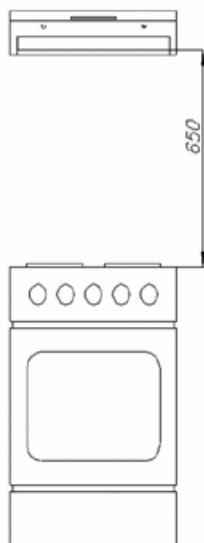

Fig. 3
3. Put the unit on the lower edge of the upper cupboard of the kitchen set. Check the minimum required height according to Fig. 3 (650 mm for electric, and 750 mm for gas hotplates).